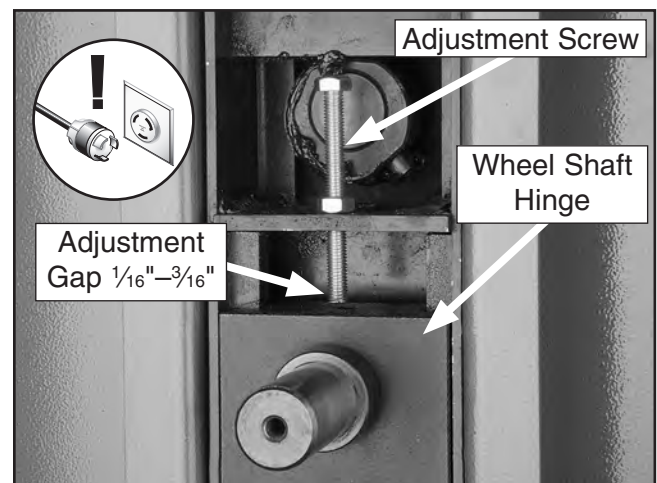

Figure 61. Tension lever adjustment components (top wheel removed for clarity).
4. Turn adjustment screw shown in **Figure 61** until gap between screw and wheel shaft hinge is $\frac{1}{16}$ "– $\frac{3}{16}$ ".